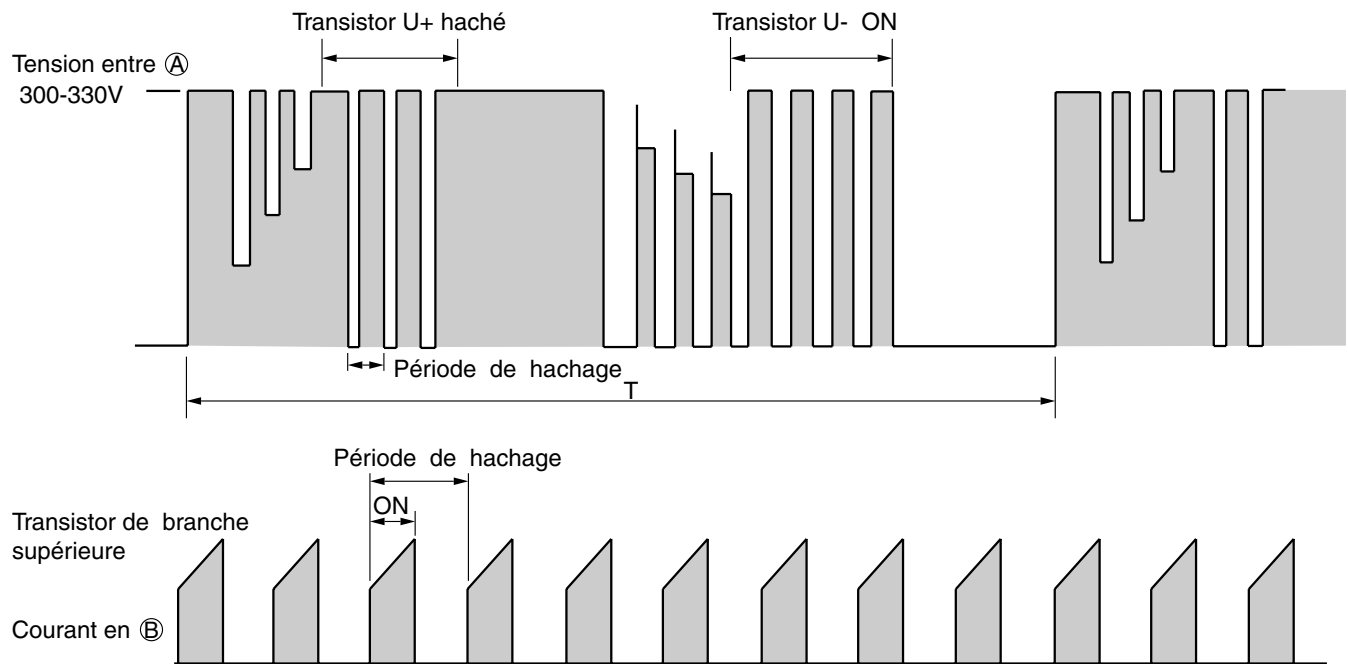

Fig. 3-3 Forme d'onde de la tension en chaque point.
- La Figure 3-3 représente la forme d'onde de la tension à chaque point dans les figures 3-1 et 3-4.
- Since current flows at point **B** only when  $U^+$  transistor and  $V^-$  transistor is ON, the current waveform at point **B** becomes intermittent waveform as shown in Fig. 3-3. Since current at point **B** is approximately proportional to the input current of the air conditioner, input current is controlled by using DC current ( $I_d$ ) detection resistor.